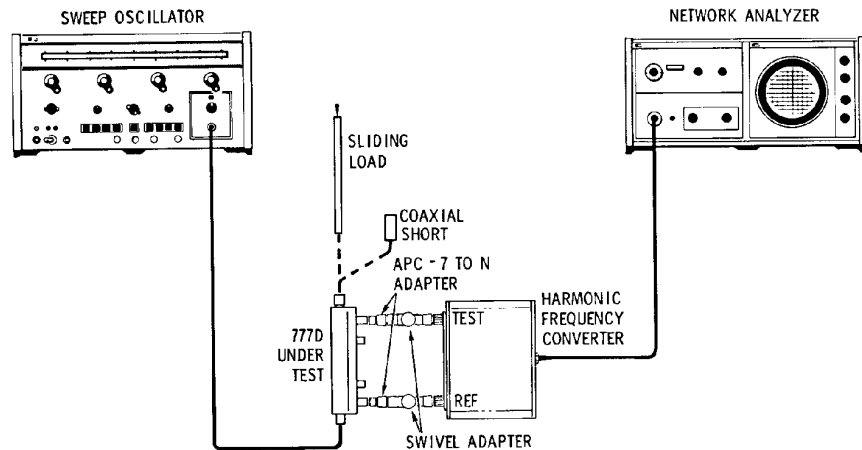

Figure 4 Directivity Test Setup
Description Refer to Figure 4 for test setup and Table 2 on page 6 for test equipment.
- APC-7 to Type N adapter (2)
- Swivel adapter (2)
1. Connect equipment as shown in Figure 4 with the 777D terminated in a coaxial short.
8. Repeat steps (1) through (9) at other frequencies to cover the 777D operating range. Reverse the 777D and test the other coupled arm.